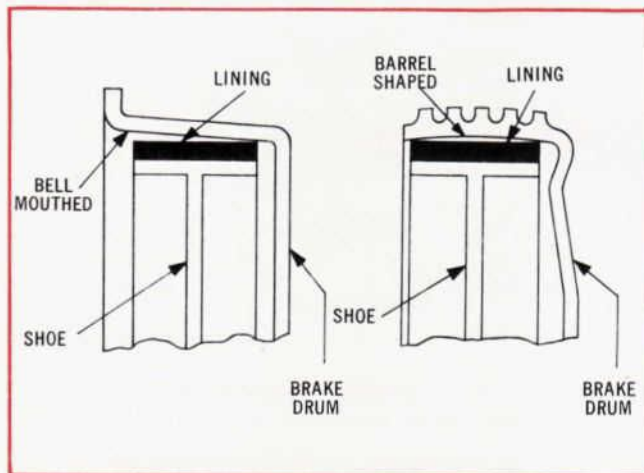

Figure 7—Exaggerated View of Two Bad Drum Conditions
- The drum or disc shows signs of mechanical damage such as scoring; or the drum is distorted, warped, bell-mouthed, barrel shaped or out-of-round, as shown in figure 7.